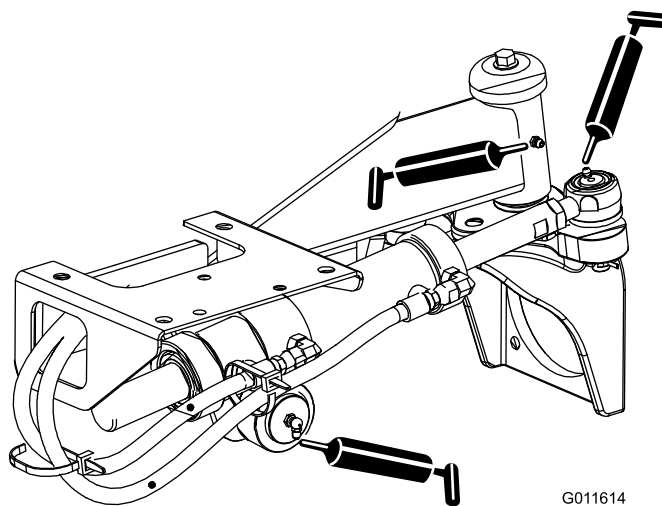

Figure 33
- Steering cylinder ball joints (2) and rear axle (1) (Figure 33)